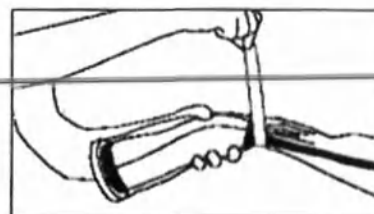

Figure 4
(4) The operator in the sterile area fastens the sterile cover with a sterile tape available on the sterile cover as shown in Figures 4 and 5.